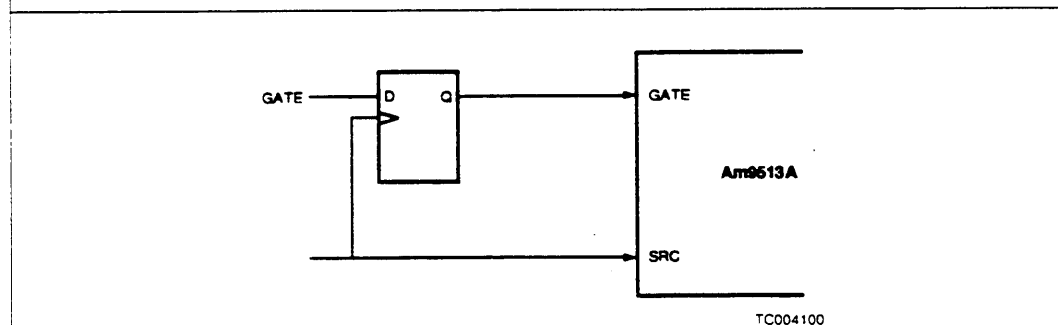

Figure A4. GATE/SRC Configuration Suggestion
- 16) Timing parameters TGVEH & TEHGV must not be violated; Figure A4 shows a method.